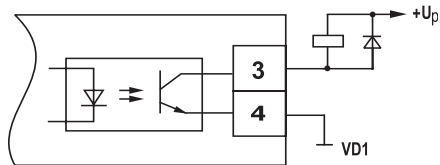

Figure 16.
3.1.10.1. Transistor optocoupler is used, as a rule, to control low-voltage (up to 50 V) relay. Connection diagram is given in figure 16.